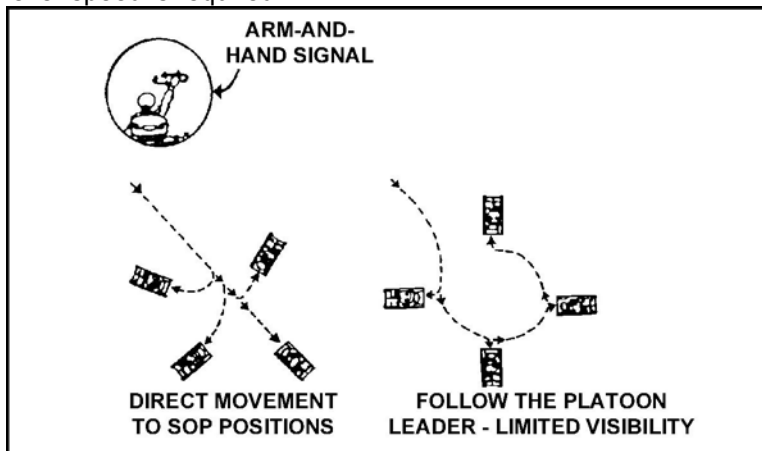

Figure 6. Coil.
- b. Select the coil formation for tactical refueling and resupply (Figure 6). Do not use it for long periods during daylight, because it presents a lucrative target. Post security elements, to include air guards and fire teams, and ensure the BFV turrets are manned. The two methods to form a coil are as follows:
- (1) When visibility is limited, the platoon leader forms the coil by leading the platoon in a circle. When the circle is completed, all BFVs stop, turn 90 degrees outward, and post security.
- (2) The platoon leader signals his BFV to quickly move into position and stop. The other vehicles move directly to their assigned position according to the platoon's SOP, seek cover and concealment, and post security. This technique is used during daylight or whenever speed is required.